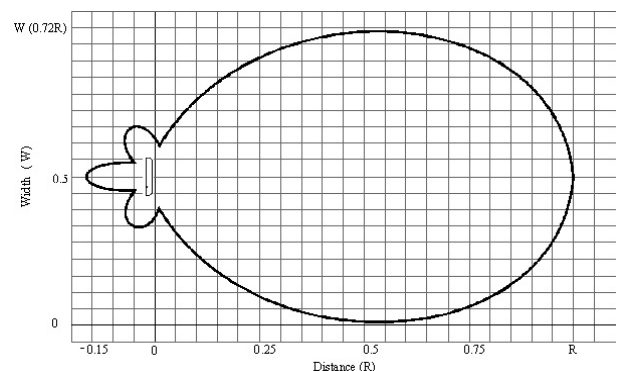

Figure 2. Effective RF Field for LR-3000 Reader
7. Results: When the tag is in the RF field (Figure 2), the LED flashes 3 times per second. Maximum range “R” may be 35-40 feet.